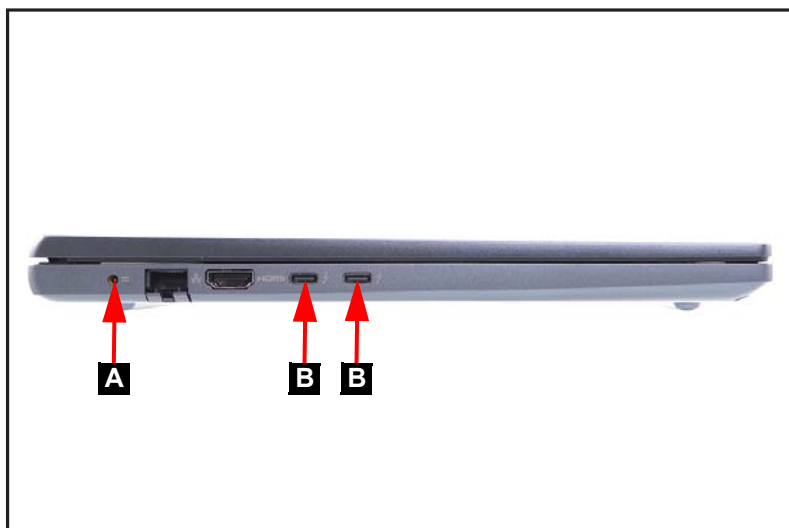

Figure 1-1. AC Adapter Outlet
2. Remove the AC adapter from any of the ports (A) or (B) of the system and from peripherals (Figure 1-1).